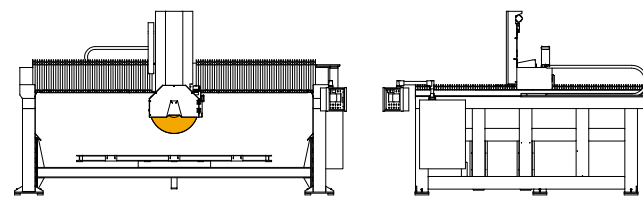

fig. 1
**Infinity recommends using diamond cutting tools on-site only for materials with a thickness of 6 mm,** while for greater thicknesses it is preferable to use tools such as water-cooled diamond blades or water-jet cutting instruments (fig. 1), which makes it possible to prevent breakages and facilitate the cutting operations.